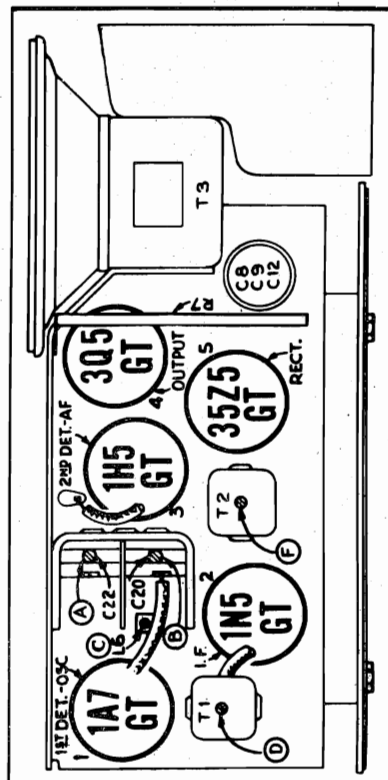

FIG. 3--PARTS LAYOUT--Top View
- (e) Tune the receiver to quiet point at 1600 KC end of dial, set Volume Control full on, adjust the trimmers on the second I-F transformer (illus. F, G, Fig. 3 & 4) for maximum output.
- (g) Adjust the trimmers on the first I-F transformer (illus. D, E, Fig. 3 & 4) for maximum output.
- (d) Adjust the antenna trimmer (illus. B, Fig. 3) for maximum output.
- (c) Adjust oscillator trimmer (illus. C, Fig. 3) while rocking group condenser back and forth through the signal until maximum output is obtained.